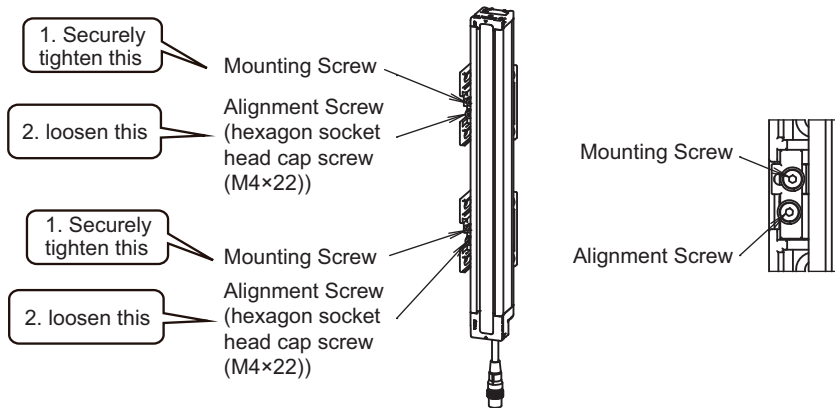

Fig. 3
- Securely tighten the Mounting Screws to fix the Free-Location Bracket to the F3SG-RR housing. The recommended torque to tighten the Mounting Screws is 3.0 N•m. Then loosen the Alignment Screws (hexagon socket head cap screws (M4×22)). (Fig. 3)